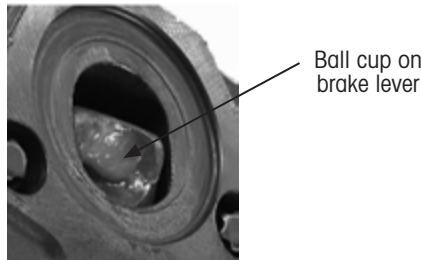

Figure 44: Greased ball cup
3. Before attaching the brake chamber, **grease** the ball cup in the brake lever (Figure 44).